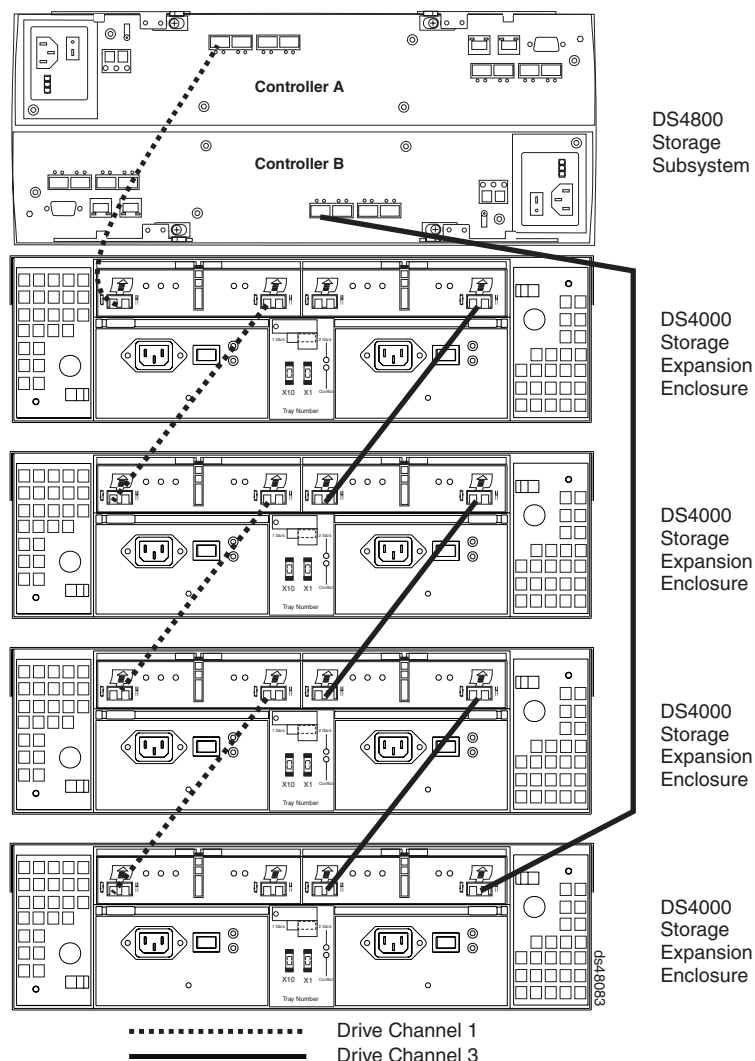

Figure 4. Recommended cabling for multiple EXP710s to the DS4800
- | Figure 4 on page 6 shows the recommended redundant cabling topology for attaching multiple DS4000